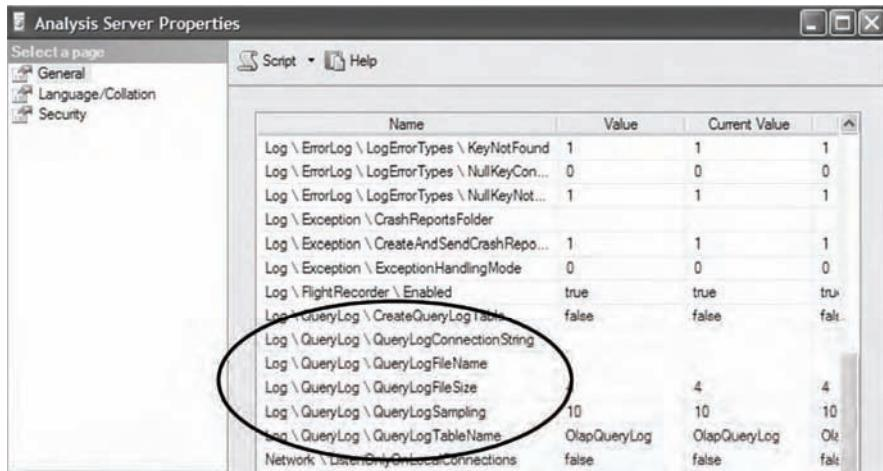

Figure 14.13 You need to enable the Query Log before using the Optimization-Based Wizard.
1. In Management Studio, open the SSAS Server Properties dialog (Figure 14.13).